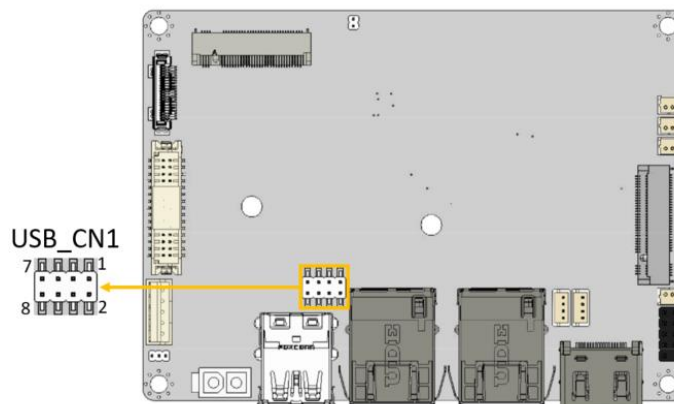

Figure 3-8: Internal USB 2.0 Connector Location
- CN Location:** See Figure 3-8